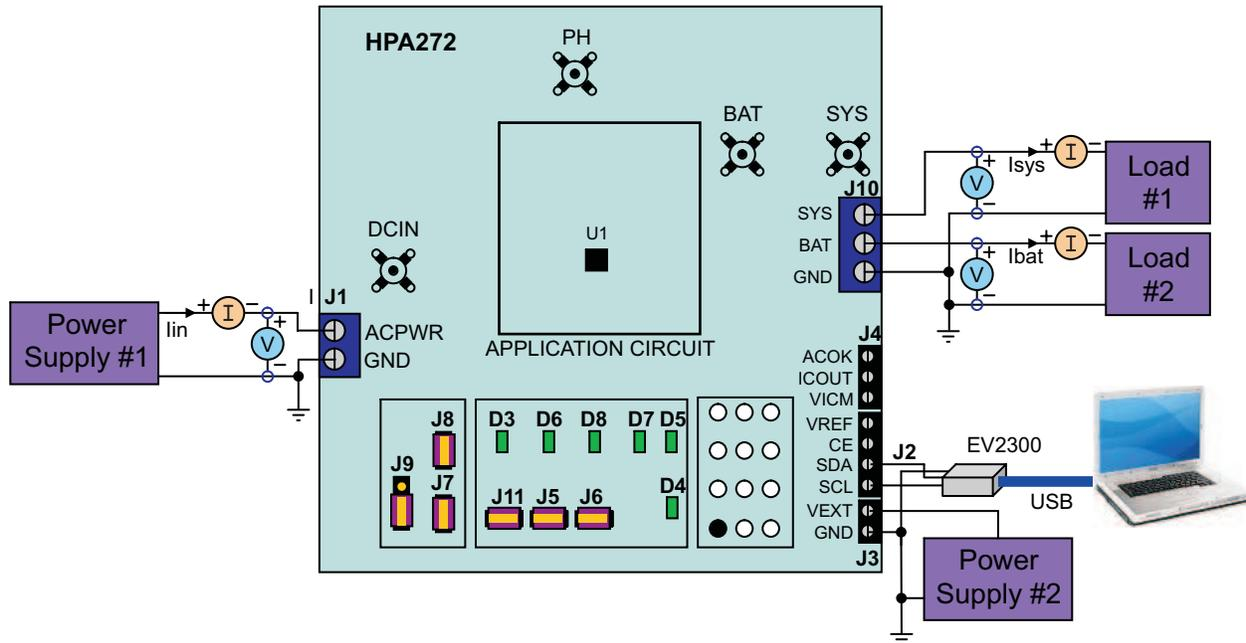

Figure 4. bq24745/7 EVM (HPA272) Test Setup
8. Make sure $I_{\text{bat}} = 0\text{ A} \pm 10\text{ mA}$ and $I_{\text{sys}} = 0\text{ A} \pm 10\text{ mA}$. Your bq24745/7 (HPA272) test setup should look like Figure 4.